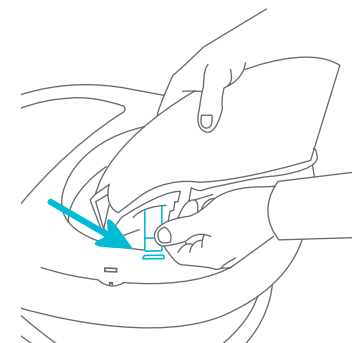

Fig. 2b
- Locate the (4) straps on back of the seat and corresponding slots on the tray. Insert each strap into its corresponding slot (Fig. 2b).